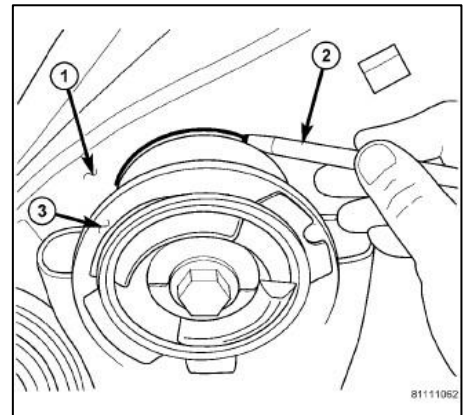

Figure 14
26. Using a grease pencil or equivalent, mark the position (2) of the rear suspension crossmember at all four isolator bushing (3) locations to aid in installation. <Figure 14>